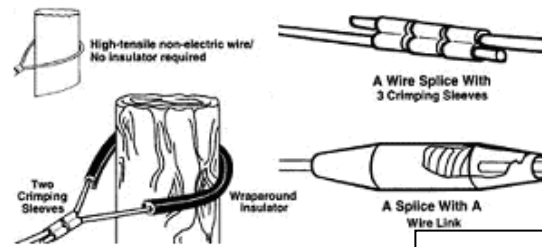

Figure 7
- A high-tensile splice requires 3 crimping sleeves or can be done with a wire link. (Figure 7)